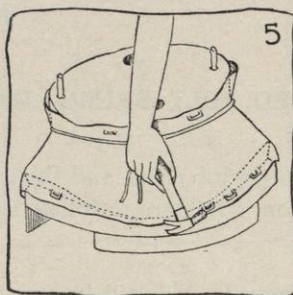

FIG. 5.
- h. If necessary, tack with a few staples, but only in the groove at the edge of the block (see Figure 5). The marks from the staples must not show in the finished brim.